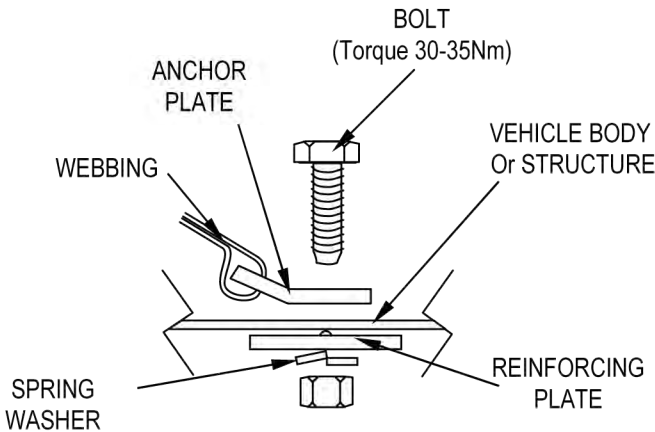

FIGURE 3
- The reinforcing plate can also be used to attach the anchor plate. (Fig. 3).